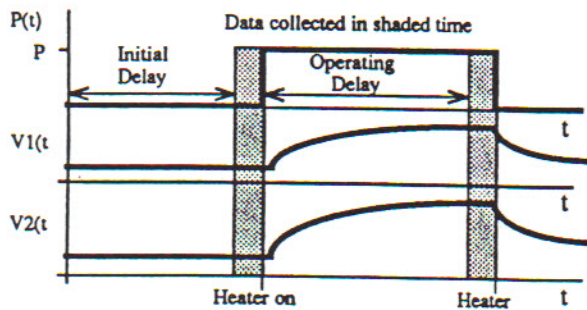

Figure 2. Graphs  $P(t)$ ,  $V1(t)$ ,  $V2(t)$
The process is illustrated in Fig 2.
11. **Initial Time Delay.** The waiting period from the time the Cold Stage reaches the measurement temperature until the system takes the first set of readings. (See Fig. 2) This delay is needed to allow the Seebeck Stage to reach equilibrium with the Cold Stage.
12. **Operating Time Delay.** The waiting period from the time the Seebeck Stage heater is turned on until the second set of readings are taken. (See Fig. 2). This allows a steady state to be reached across the Seebeck Stage.